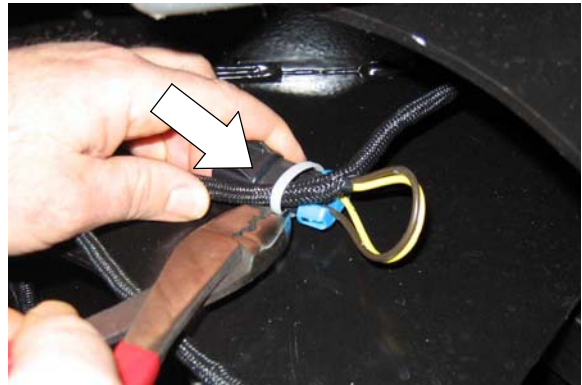

Fig. 14
14. Cut the wire-tie from the factory installed wire harness that has open connectors (Figure 14).